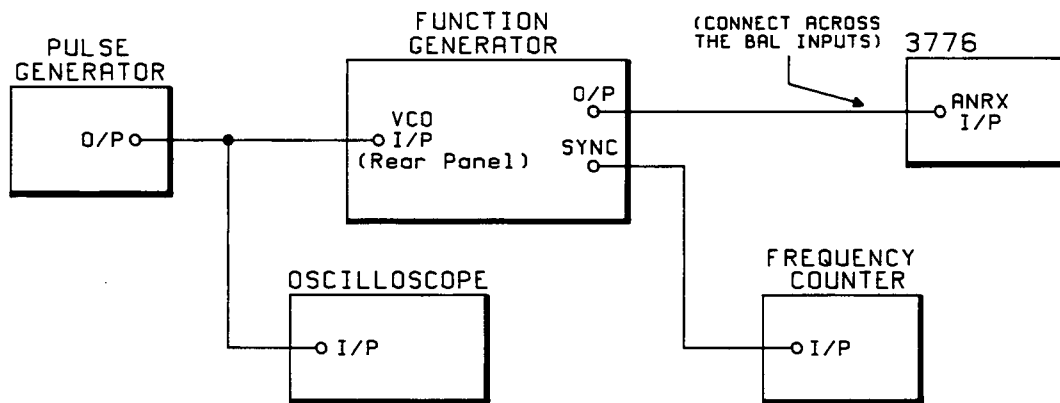

Figure 4-9 Phase Hits Threshold Range and Threshold Accuracy Test Set-up
1. Connect the equipment as shown in Figure 4-9.